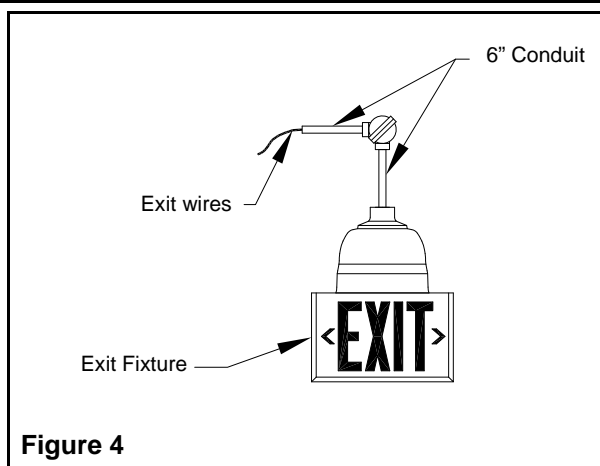

Figure 4
- Disconnect swivel elbow by removing the screw (see fig. 4). Route EXIT fixture wires through the 90-degree elbow on top of housing. Connect swivel elbow with 6" conduit to the 90-degree elbow. Do not lengthen this conduit unless a seal-off is fitted within 18" of the housing. Permanently secure and tighten all fittings after properly positioning. Re-assemble swivel elbow.